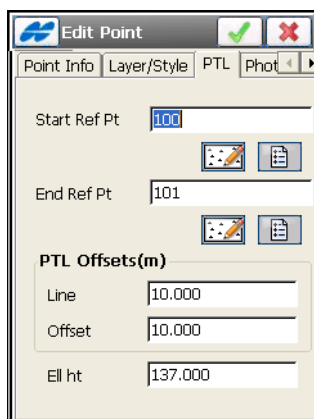

Figure 6-8. Edit PTL Point
11. To enter a PTL point, turn on the PTL Mode using the Help Icon menu in the top-left corner of the **Points** screen. When adding or editing a PTL point, insert the starting and ending reference points and the PTL offsets: offset from the starting point along the reference line, horizontal offset from the reference line, and the height offset with respect to the starting point (Figure 6-8).